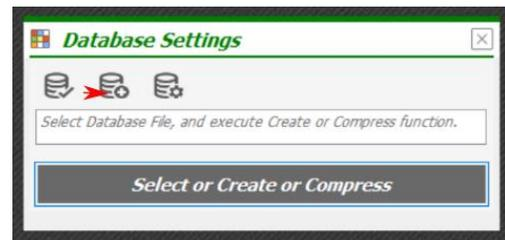

Fig. 5
4. The first time the application launches, a database has not yet been assigned. Select **OK** in the **Database Not Found** dialog box. The **Database Settings** dialog box will appear. See Figure 5. Select the **(+) disk stack icon**; the **Save to File** dialog box will appear. NxESL will assign a numeric file name for the demo. Select **Save** to continue. Select **Create**, **OK** and finally **Select** as the buttons become available to finish creating the demo database file.